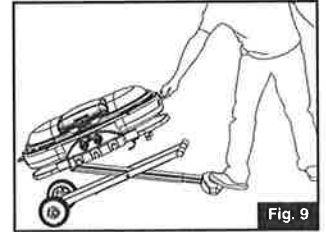

Fig. 9
- Place foot on plastic towing handle, grasp metal handle on grill and lift until stand is fully extended. (Fig. 9)